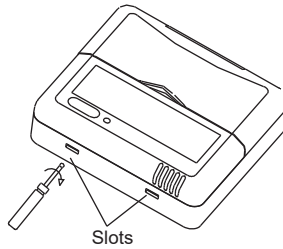

Fig 2-4
- Insert a slot screw driver into the slots in the lower part of the wire controller (2 places), and remove the upper part of the wire controller. (Fig.2-4)